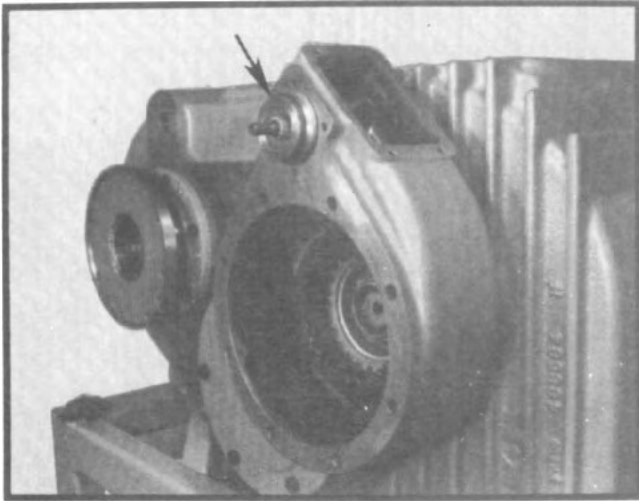

Fig. 178
5. Install o-rings in adapter tube and insert adapter tube into PTO/declutch housing. (See fig. 178)